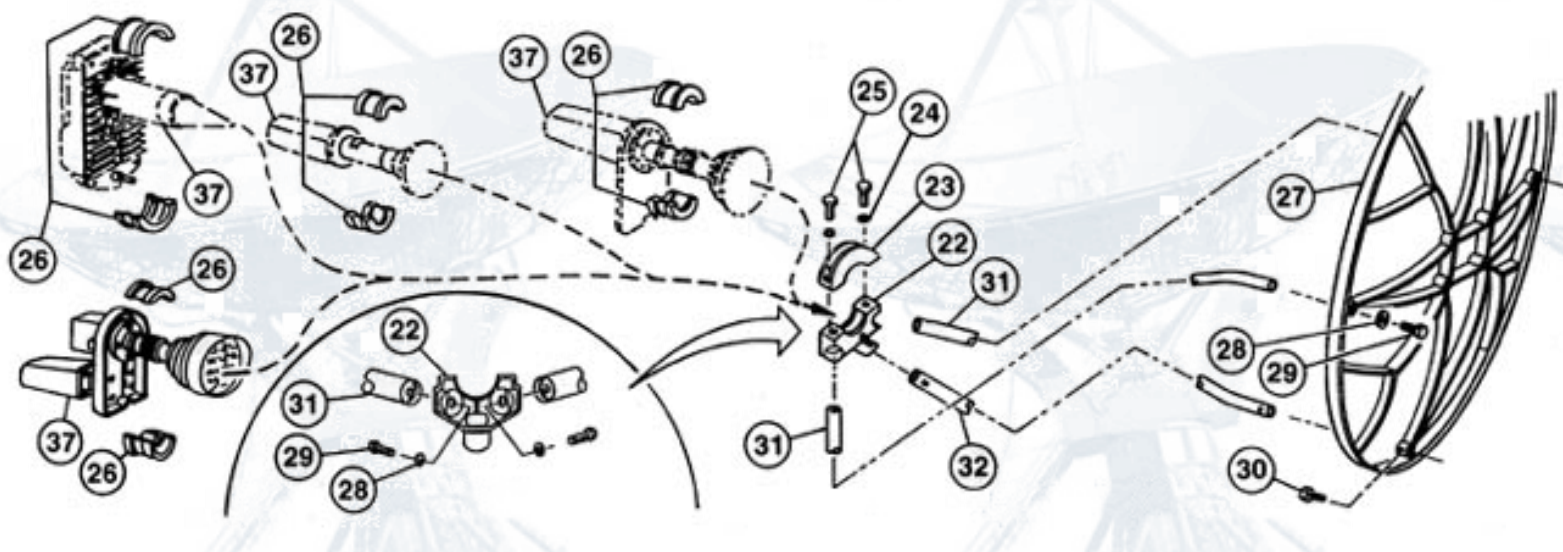

FIG. 2.5 - INSTALLATION OF FEED SUPPORT LEGS TO ANTENNA AND FEED
Assemble feed assembly and feed legs to antenna as shown in Fig. 2.5. Insert bottom feed leg (32) into hole in bottom edge of antenna (27).
Using appropriate bushing (26), assemble feed assembly (37) junction block (22) and clamp (23) using two M6 x 20mm bolts and M6 flat washers (25 & 24) as shown in Figure 2.5.